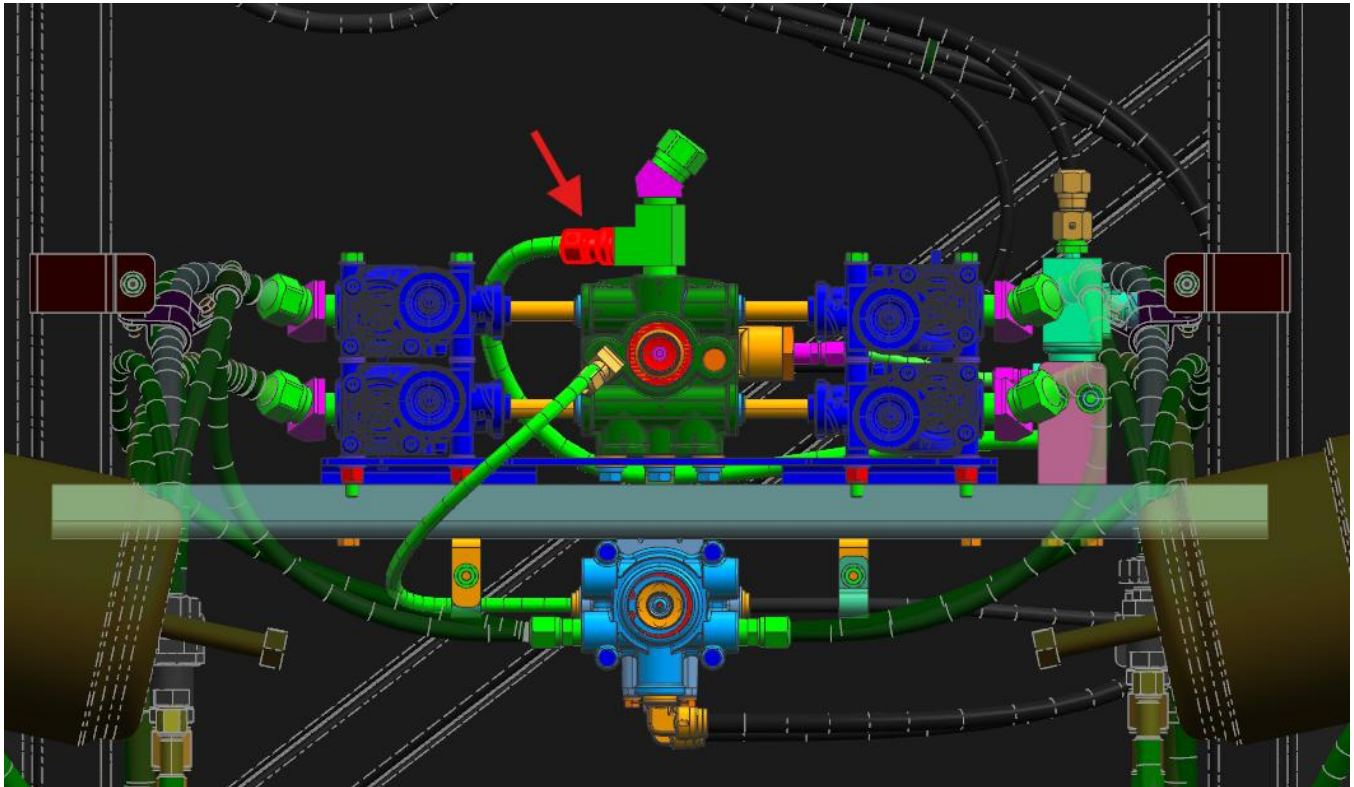

Figure 1: Compression fitting P/N 19-10-1335
4. Access the valve disc assembly fitting P/N 19-10-1335 from the front of drive axle as shown in Figure 1.